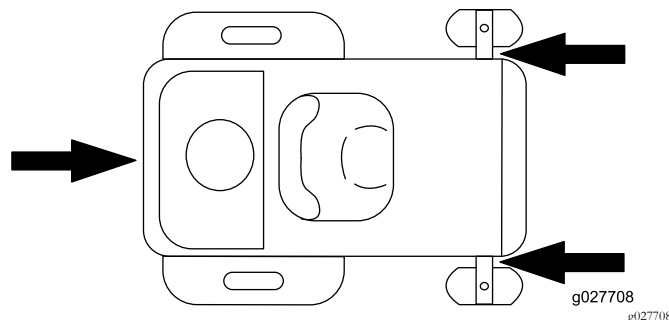

Figure 34
5. Tie down the machine near the front caster wheels and the rear bumper (Figure 34).